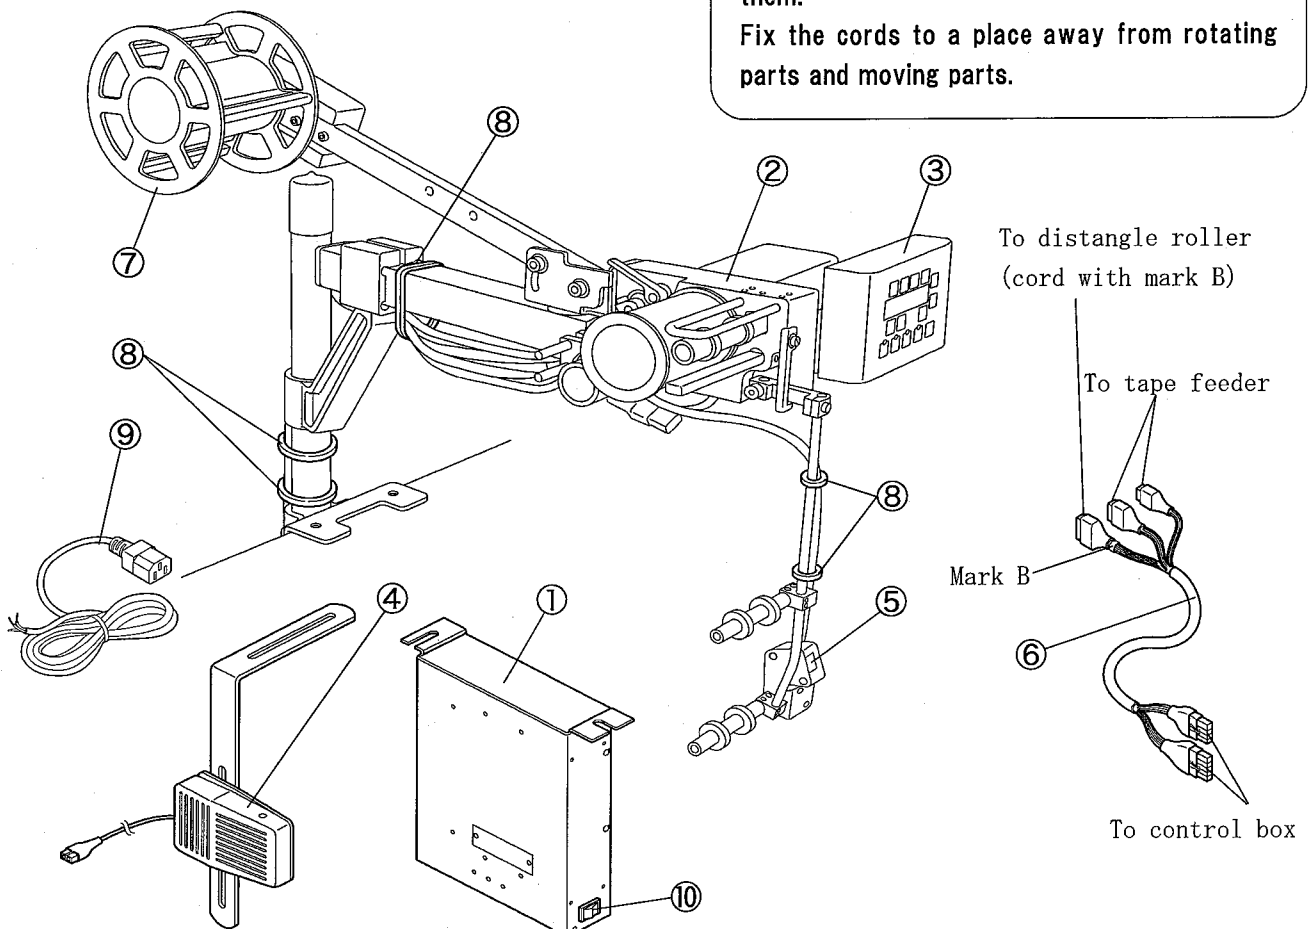

Fig. 2-24
1. Connect the connectors on the control box ① with the connectors from the tape feeder ②, operating control box ③, knee switch ④ and process indicator ⑤. Make sure that they are the same in shape, color or mark.
2. Connect the intermediate cable ⑥ with the control box ①, tape feeder ② (two connectors) and distangle roller ⑦ (one connector).
3. Fix the cords by the wrapping bands ⑧ as shown in Fig. 2-24.
4. A plug that matches the outlet needs to be prepared separately. Connect the plug with the power cord ⑨. Then, insert it into the control box ①.
5. Make sure that the switch ⑩ on the control box ① has been turned off. Then, insert the plug into the outlet.